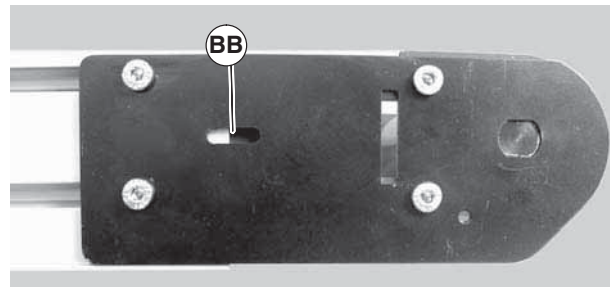

Figure 40
2. On the side of conveyor to be adjusted, loosen two (2) tail clamp screws (Figure 40, item U).